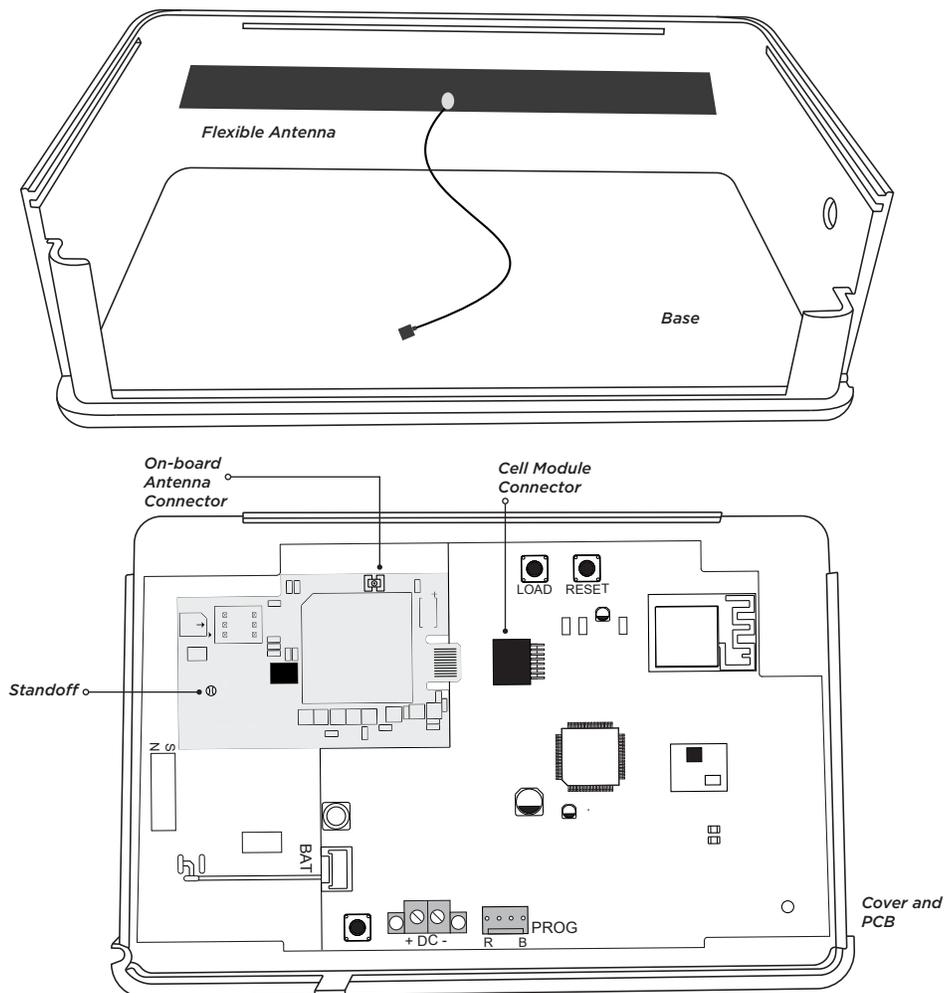

Figure 4: 265 Installed on the SecuraHub™
5. Remove the backing from the flexible antenna and place it inside the housing base. See Figure 4.